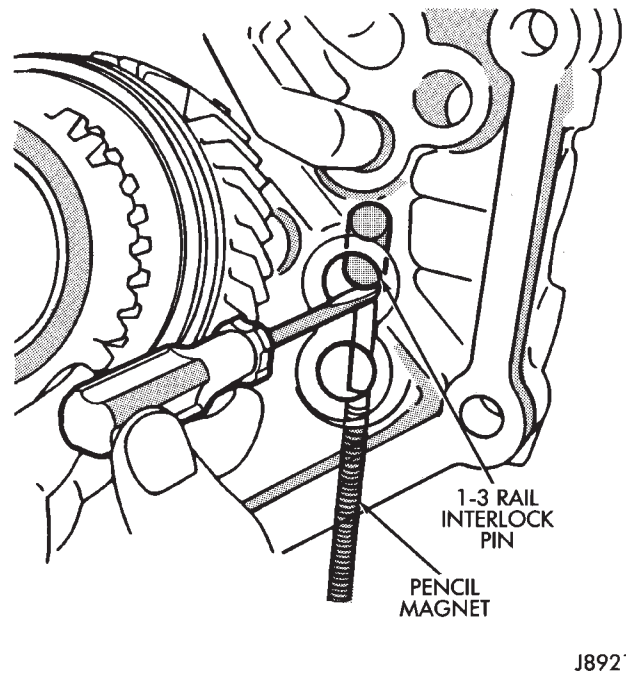

Fig. 74 Installing 1-3 Shift Rail Interlock Pin
(9) Install largest interlock pin between Nos. 1 and 3 shift rails (Fig. 74).